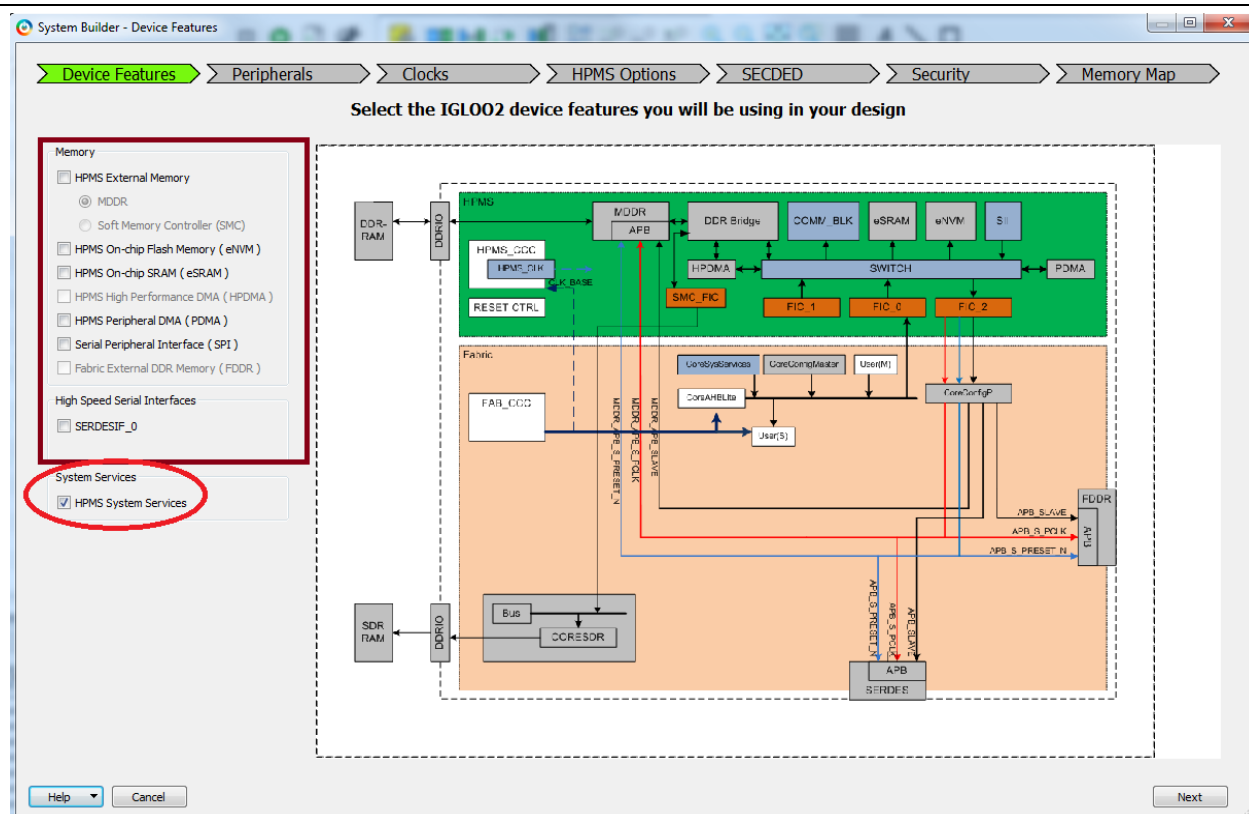

Figure 5 System Builder – Device Features
- In the **System Builder – Device Features** tab, select the **HPMS System Services** check box under **System Services**, as shown in Figure 5.